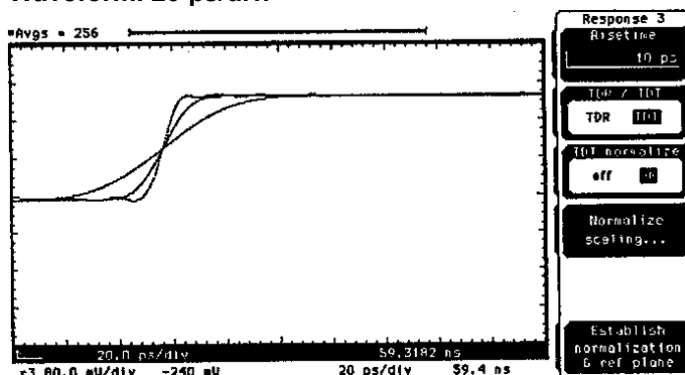

Figure 15: Reflection from Short Circuit Normalized to Risetimes of 50 ps, 20 ps and 10 ps. 80 mV/div and 20 ps/div.
16. Push "Setup - Chan 3" button. Set "Display" = off. Now only the normalized results will be displayed. Experiment using different normalization risetimes. The risetime control is contained in the TDR/TDT Setup menu and the "Normalize response" submenu. Figure 15 shows the results obtained for risetimes of 50 ps, 20 ps, and 10 ps.